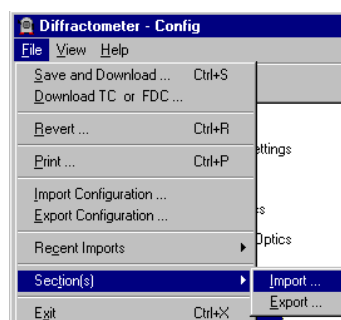

Figure 6.13 - Import detector settings
1. Import the default detector settings (see Figure 6.13).